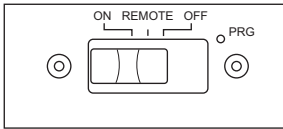

Figure 58 - Remote Selector Switch in ON Position
- Wait one minute and switch selector switch to the ON position to light burners (see Figure 58). When using in the ON position (without remote) burners will light on high. There is no adjustment to the flames without using remote.